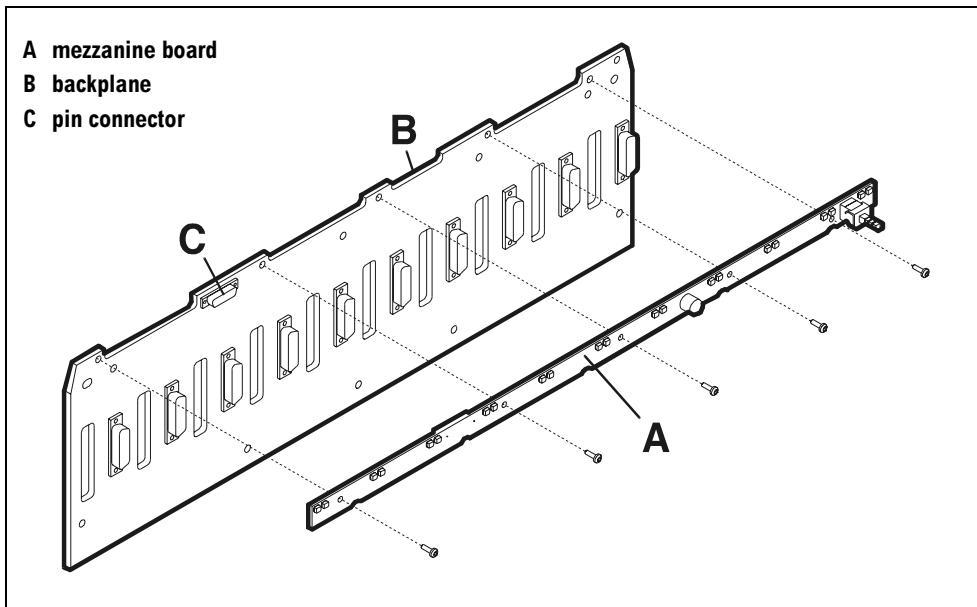

Figure 53 Mezzanine Assembly
- a. Remove the five Torx T10 screws securing the mezzanine to the backplane (see Figure 53).
- b. Pull the mezzanine board free of its connector (C) on the backplane.
- a. Attach the new mezzanine to the backplane connector (C in Figure 53).